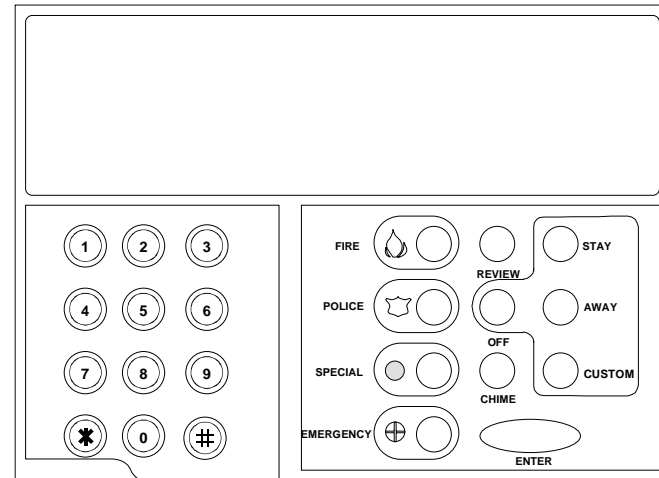
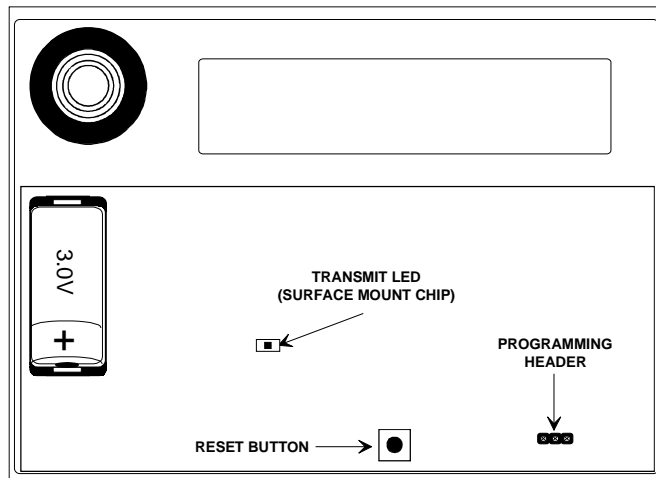

Figure 1: FA130 Keypad
Figure 2: FA130 programming
3. Complete program data entry as shown below Figure 1. When prompted to "Plug in Xmitter", connect the programming cable between programming headers on the hardwire executive keypad and the FA130 wireless keypad. Refer to Figure 2 to locate the programming header.